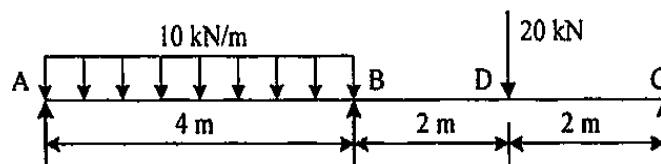

Fig. 1
- (b) Determine moment at B for the continuous beam loaded and supported as shown in the Fig. 1 by Clapeyron's theorem. [6]